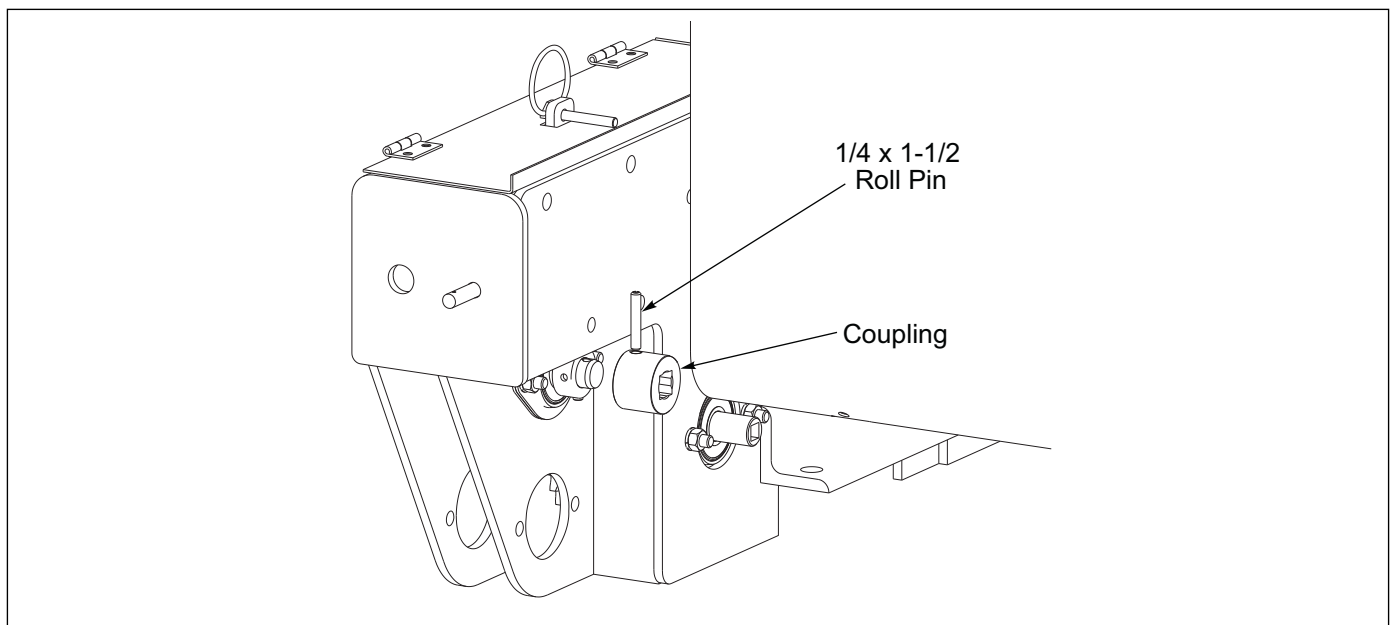

Figure 2-31: Coupling Transmission
2. Install coupling on transmission output shaft and secure with 1/4" x 1-1/2 Roll Pin. **See Figure 2-31.**